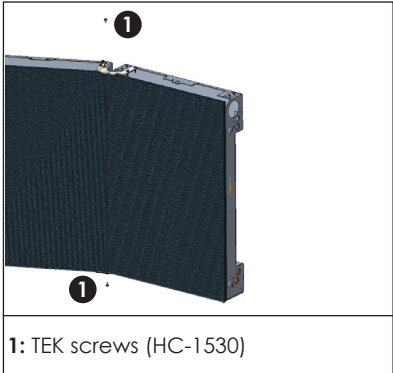

Figure 20: Install HC-1186 Screws
4. Bring the wing section next to the main cabinet sections. Install a screw (#HC-1186) up through the bottom pivot bracket into the bottom perimeter of the wing section. Refer to **Figure 20**.
5. Align the top of the wing section with the main section and install a screw (#HC-1186) through the top pivot bracket into the offset pivot bracket. Refer to **Figure 20**.